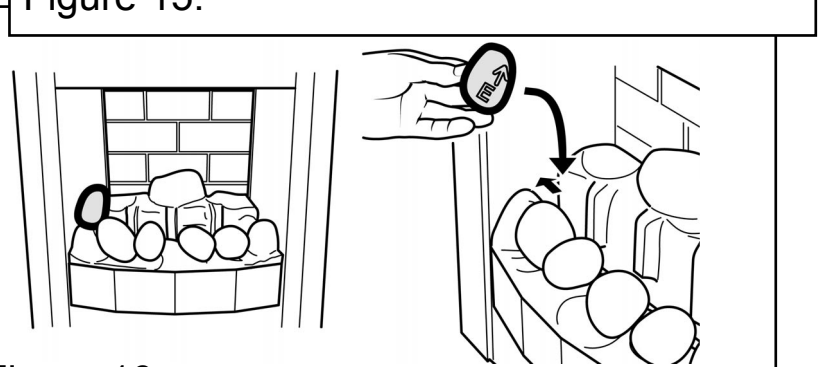

Figure 16.
7. Hold pebble 'E' upright with the arrow pointing to the top. Place pebble 'E' between the front and rear base pebbles. It should rest against the side of the firebox. (See figure 16).